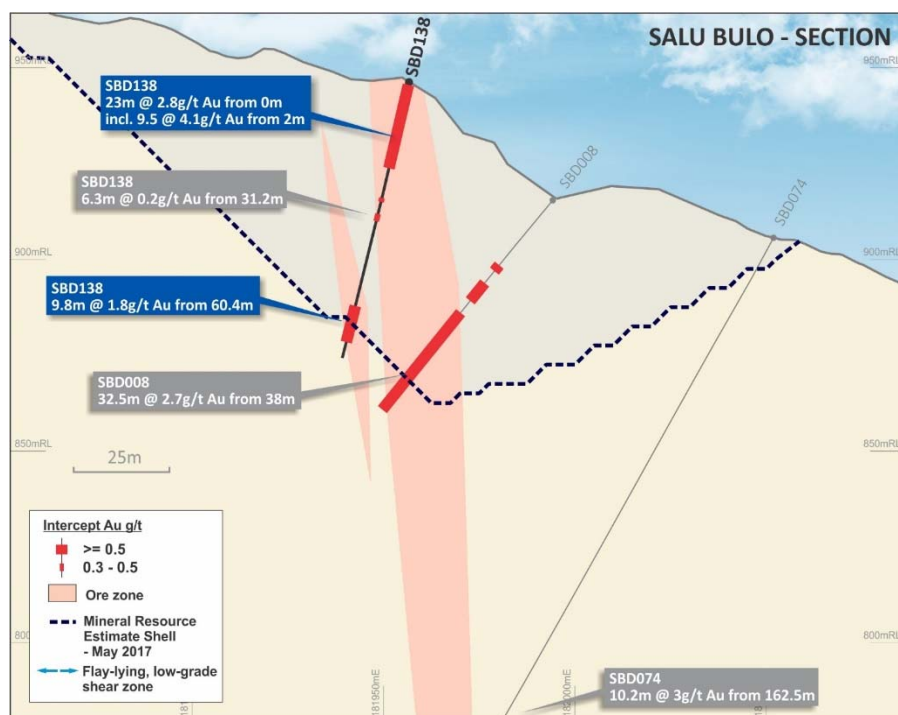

Figure 5: Cross-section of Salu Bulu deposit showing mineralised intersections > 0.3 g/t Au in SBD138.
- SBD139M (Figure 5); **28.6 m at 0.9 g/t Au** from 14 m, including **4 m at 4.3 g/t Au** from 29.0 m; and **30.1 m at 2.8 g/t Au** from 53.4 m, including a high-grade interval of **8.0 m at 7.4 g/t Au** from 69.5 m.